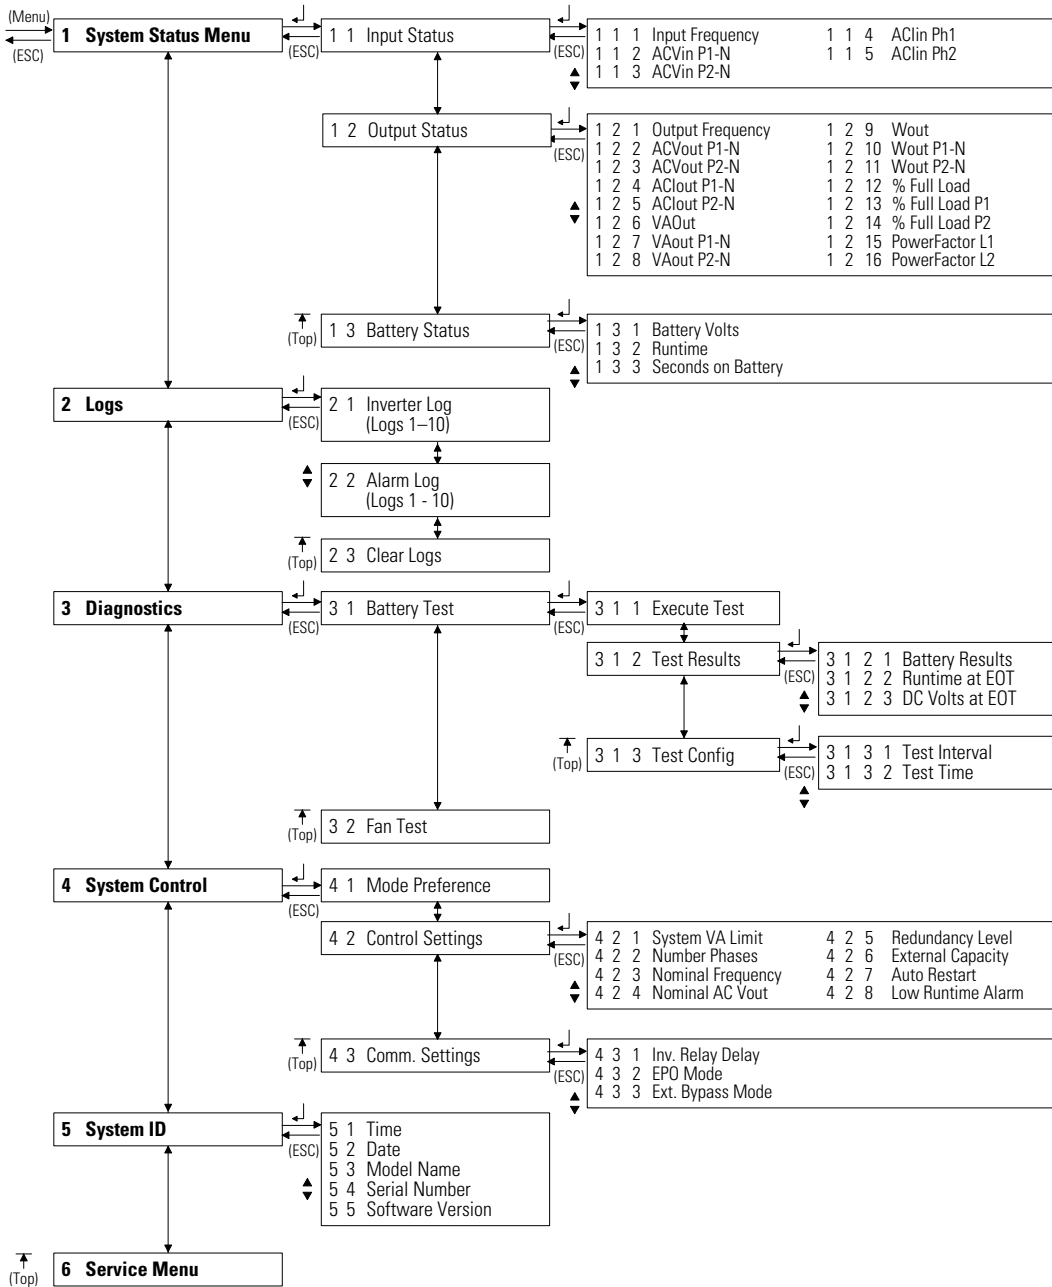

Figure 60. Eaton 9170+ System Menu Map
One or two triangles at the right of the display indicate which arrow buttons are active for moving within a menu level. See Figure 60 on page 88 for the complete system menu.
1. Use the Menu map (Figure 60 on page 88) to find the parameter you need to change, and move through the menu structure until the parameter name appears on the display.
Figure 60 shows all the Eaton 9170+ system parameters. The menu structure has six primary-level menus, System Status Menu (1) through Service Menu (6). Each primary menu has secondary items numbered by their location under the primary menu. Use the various buttons as shown in the map to navigate to the desired parameter.